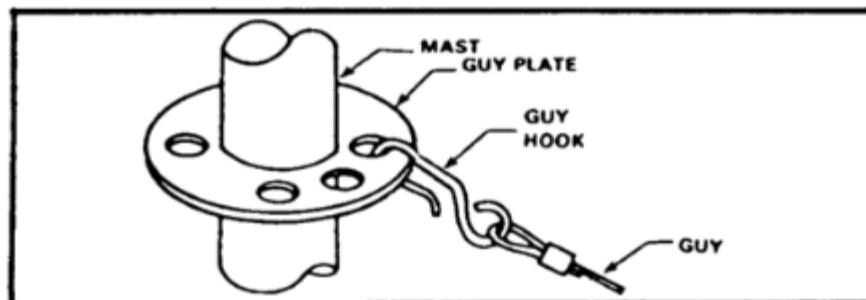

Figure 3-5. Attaching guy hooks to guy plate.
a. Attach the hooks of the lower guy assemblies (color coded blue) to the lower guy plate (Figure 3-5).
c. Attach the hooks of the upper guy assemblies (color coded red) to the upper guy plate (Figure 3-5).